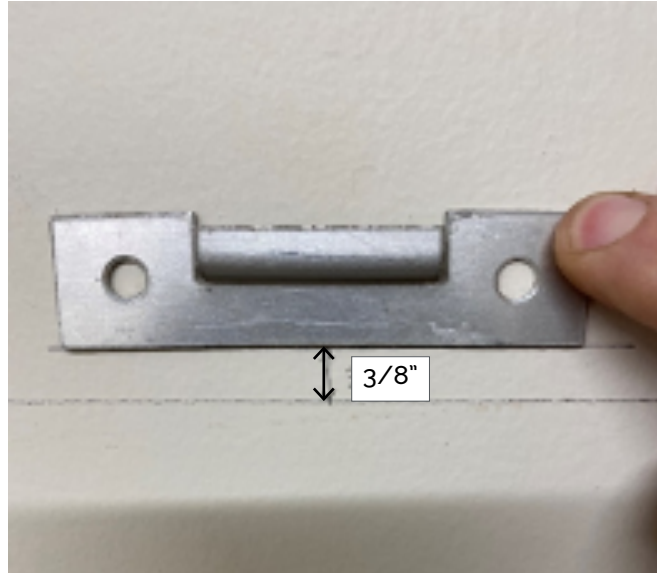

Figure 2
4. Align the bottom of the clip-on mounting brackets with the marks from the previous step as shown in **Figure 2** and mark each screw hole on the wall.